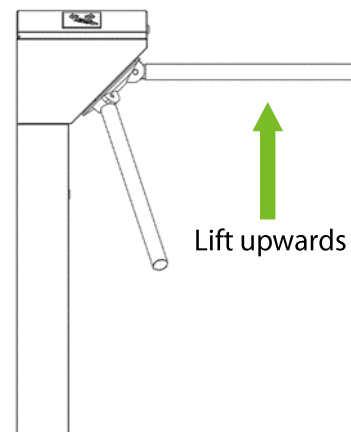

Figure 2-3B
3. Lift the arms manually, as shown in Figure 2-3B.